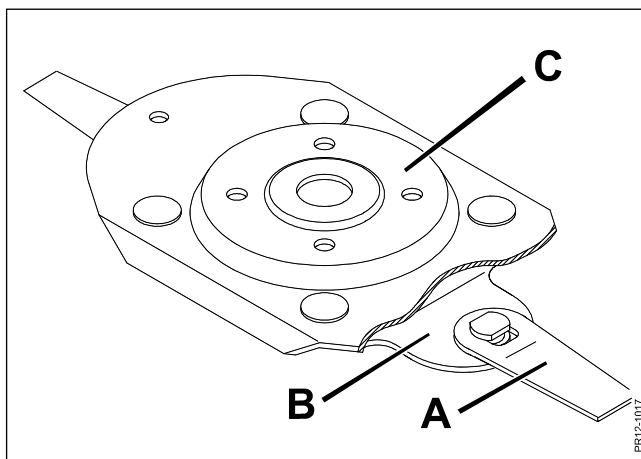

Fig. 5-10
**Fig. 5-10** The system is called QS, (Quick and Safe), which indicates the quick mounting/change of blades and the high safety as blades **A** cannot unintentionally be released from the blade holder **B**, which is bolted on the disc **C**.